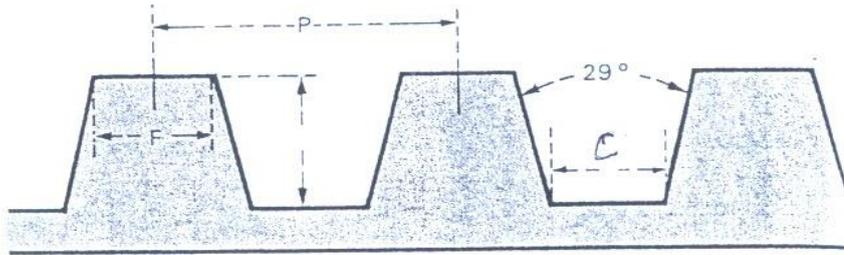

Figure 32 Acme Thread
2.1.1.5 The American National Acme Thread: It is replacing the square thread in many cases. It has 29° angles and is used for feed screws, jacks and vises. (Refer fig 32)